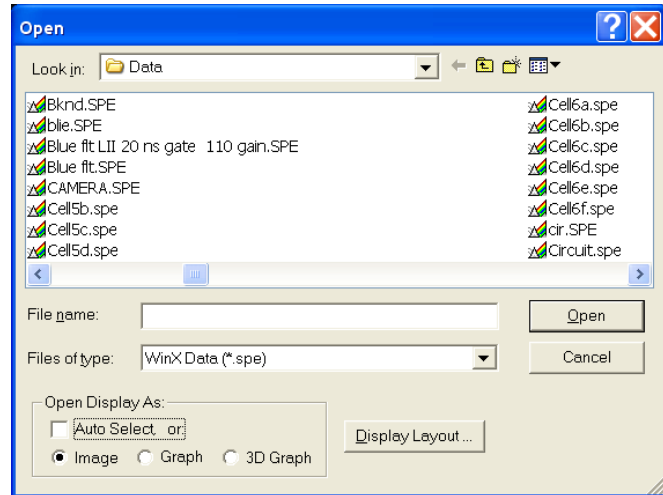

Figure 92. Open dialog
1. From the **File** menu, select **Open**. The **Open** dialog (Figure 92) allows you to select the image to be opened. The **Look-In** field provides a browser function so you can easily find the directory where the images. By default, the data directory is a subdirectory of the directory where WinSpec/32 was installed. Subdirectory names and the filenames of all files of the specified type (the WinSpec/32 data type is *.spe) in the current directory are listed in the box below the directory name. The WinSpec/32 data type is WinXData (*.spe).